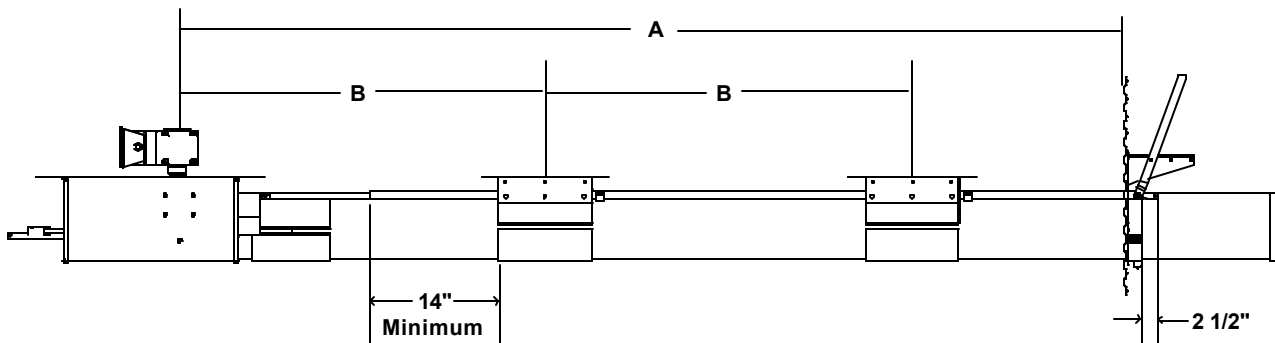

FIG. 3
- A. Cut openings in the bin floor for the intermediate wells. (See Fig. 2-A & 2-B on page 4.) The number of wells depends on bin size. The distances between intermediate wells and the center well should be equal. (See Fig. 3 and Chart below.)